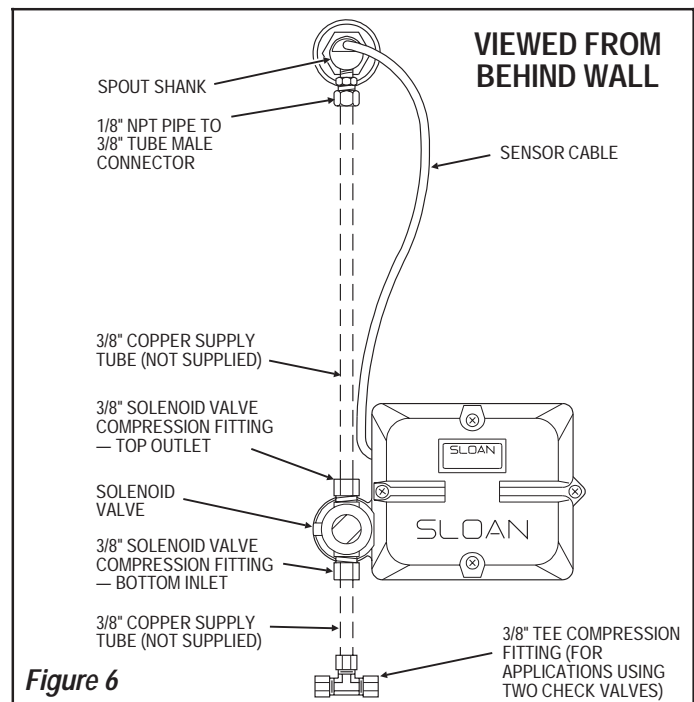

Figure 6
Step 5 — Connect Supply Line From Solenoid Valve Outlet to Faucet (Figure 6)